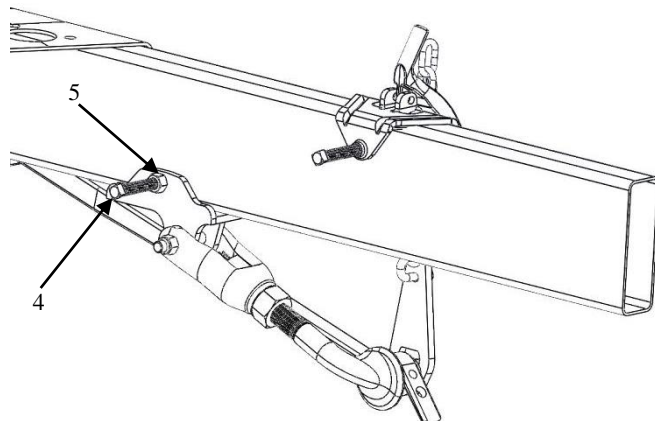

Figure 2
7. Position the Chain Hanger temporarily above the cam arm. (Upon hook-up, the Hanger position must be adjusted to be sure the chain is vertical before towing). Tighten the Chain Hanger bolt shown in figure 2 against the frame.